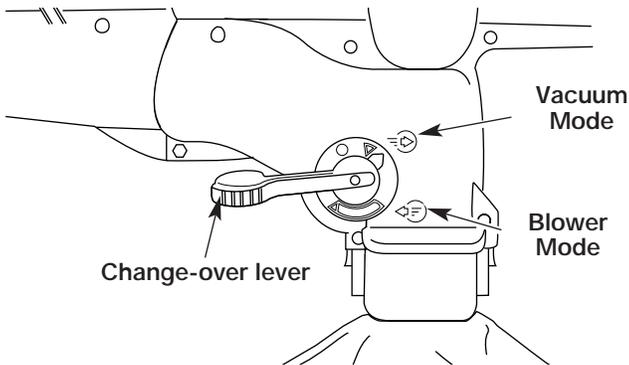

Fig. 18
3. Set the blower/vacuum mode change-over lever to the down position (Vacuum Mode) (Fig. 18).